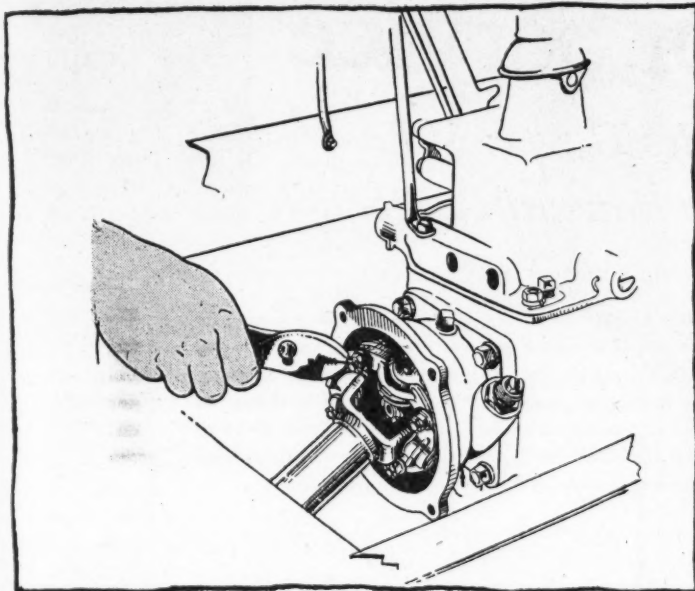

Fig. 22.—Removing universal joint locking wire
23. Remove locking wire from the four cap screws holding universal joint rings together, as in Fig. 22.